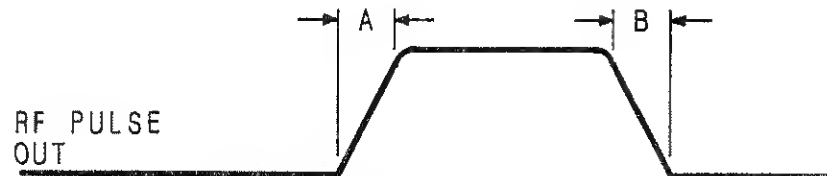

Figure 4-6. Pulse Performance Parameters
5. Refer to Figure 4-6 and measure rise time (A) and fall time (B).